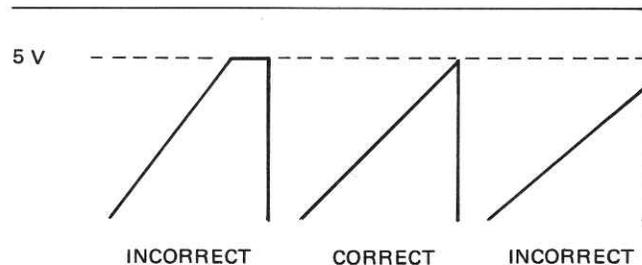

Figure 4-4. Ramp Positive Peak Adjustment
6. Adjust sweep board potentiometer R71 until the positive peak shows no flattening, but does not decrease in amplitude from the clipped level (see Figure 4-4).